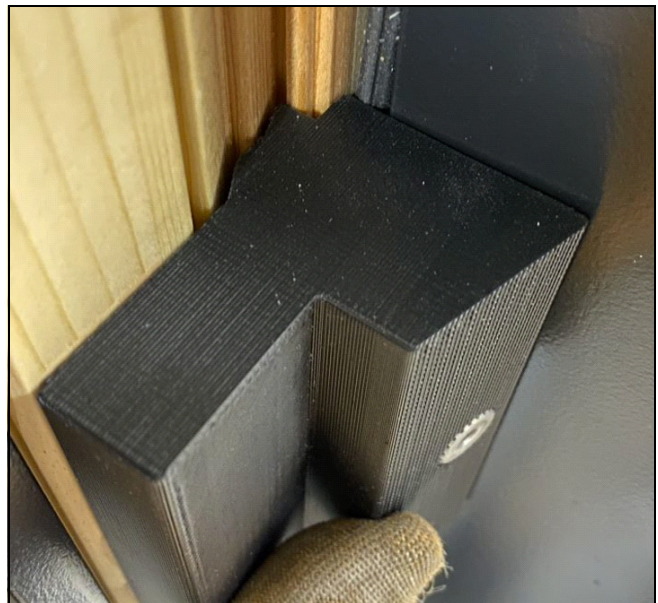

Figure 11
7. Place the drill jig over the bracket and push until the jig indexes into the wood geometry (**the jig also indexes the panel nominal position**). Hold this position and pre-drill with a 1/8" bit (adjust your bit to maximize the drilling depth). Repeat for each bracket. See Figure 11, Figure 12, and Figure 13.